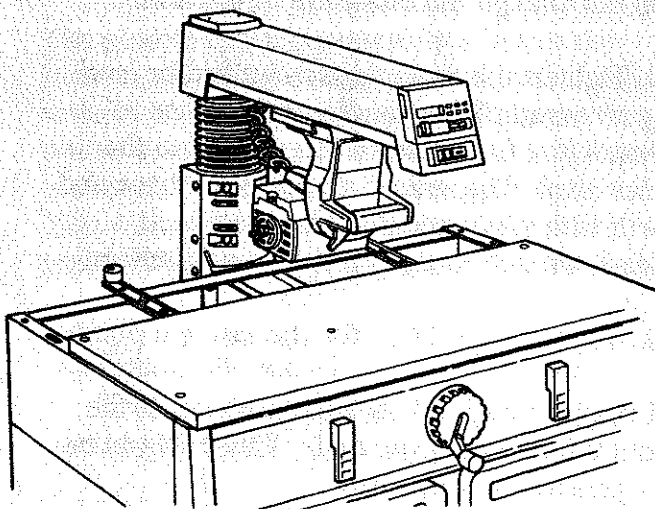

Fig. 102
24. Unlock the *bevel lock* and return the motor to its original position with the *arbor shaft* parallel to the *table*. (Figure 102)